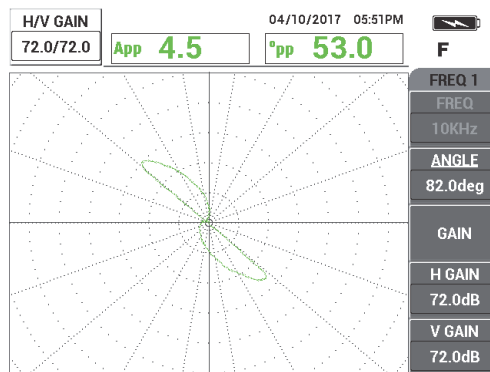

Figure 5-162 Adjusting the frequency 1 gain
4. Press the **GAIN** key (**dB**), and then increase the frequency 1 gain until the hole signal reaches about 6 vertical divisions in height (see Figure 5-162 on page 242). If necessary, adjust the **ANGLE** after you have increased the gain.